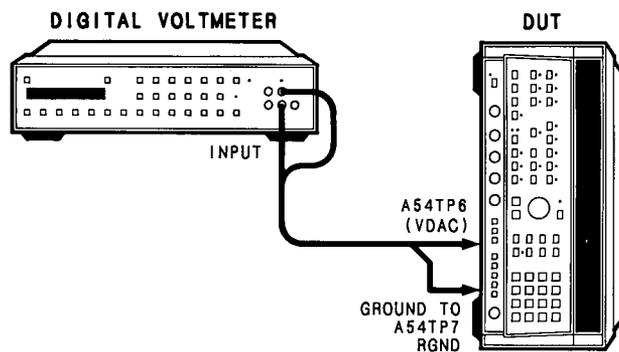

Figure 5-13. YO Pretune DAC Gain Test Setup
48. Connect the active probe to the spectrum analyzer input and connect the probe to the output of the 40 kHz LPF on A36 (see Figure 5-13). (This is the terminal on A36L7 next to A36C24.)
1. Position the DUT in the test position as shown in Figure 5-13 with bottom cover removed and turn the LINE switch on. Connect the test equipment as shown in Figure 5-13 and allow one-half hour warm up time. Be sure to connect DVM ground to A54TP7 RGND.